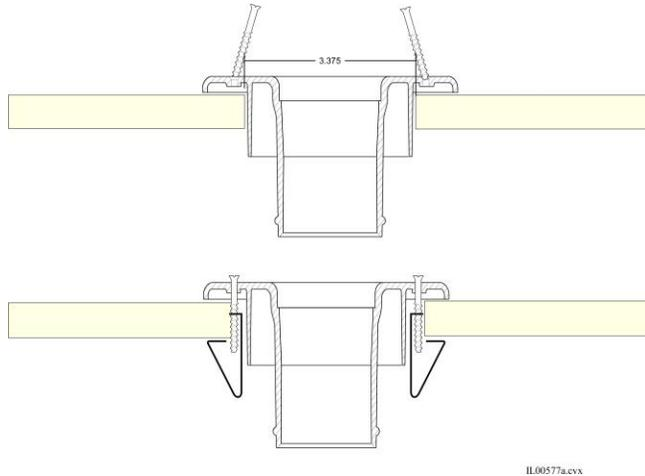
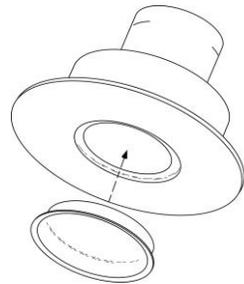

Figure 5. Supply outlet installed in floor without toggles (top) and with toggles and screws (bottom)
Figure 7. Installing winter shutoff caps
at a very slight angle away from the 3-3/8-inch hole if necessary (Figure 5).
**Install Plenum Adapter.** Use the UPC-61-xxxx supply plenum adapter for round metal plenum (Figures 5 and 6). Use the UPC-62-xxxx supply adapter for square fiberglass duct board plenum (Figure 7). Any other shapes or sizes require a field installed adapter.
For cooling only systems where the air distribution system is located in an unconditioned space, such as the attic or an unheated garage or utility room, steps must be taken to keep moisture from collecting in the duct and plenum system during the winter months. Winter supply air shut-off plugs are included in the Installation Kits. They can also be ordered separately in kits of 20 as UPC-42-20. These plastic plugs fit into the supply outlet opening. Push them in until they seat against the ledge inside the mouth of the supply outlet (see Figure 7).